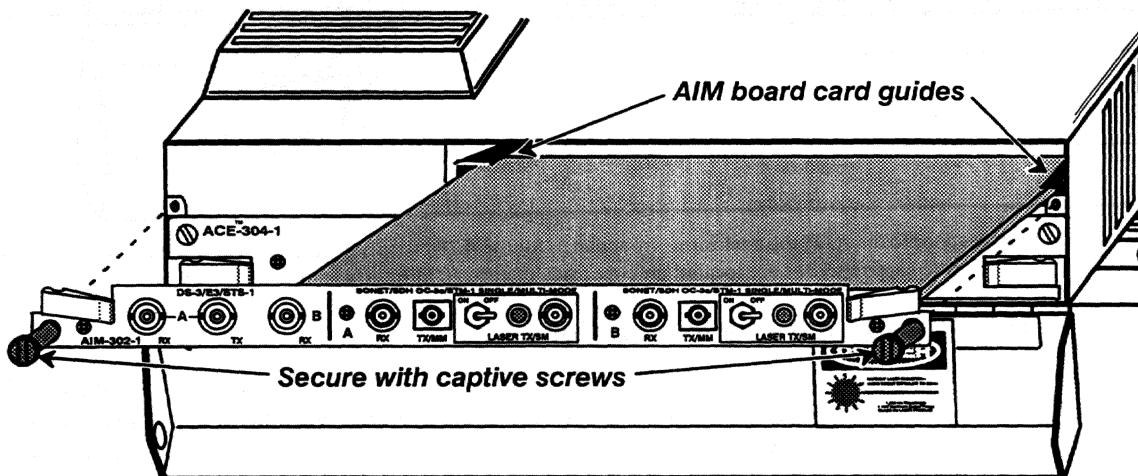

Figure 5-8 Installing an AIM module in the ATM top enclosure. Note the two AIM board card guides and captive screws.
- Grasp the levers between your thumbs and index fingers and slowly slide the board out of the unit. Grasp the sides of the front panel for a better hold on the module as it comes out of the unit; the board is steadied by card guides on the inside walls of the top enclosure. (These card guides are visible in Figure 5-8.)
To install the new AIM, refer to Figure 5-7 and Figure 5-8 and do the following:
- Grasp the sides of the front panel of the module and insert the back side edges of the board in the two top card guides located inside the top enclosure as shown in Figure 5-8: on the inside wall on the right and on the side of the fan assembly on the left. (Two lower card guides also hold the ACE board).
- Tighten the captive screws in place (see Figure 5-8).